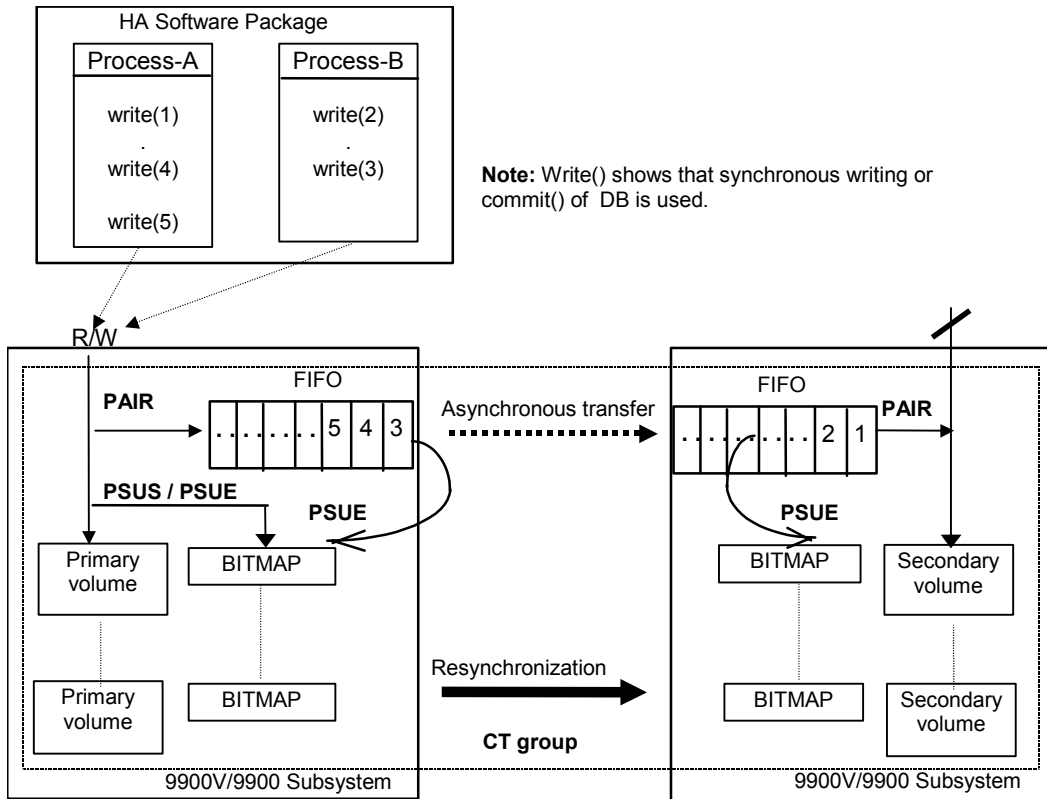

Figure 2.9 Hitachi TrueCopy Asynchronous Consistency Groups
Hitachi TrueCopy Asynchronous provides paired volumes which utilize asynchronous transfer to ensure the sequence of writing data between the primary volume and secondary volume. The sequence of writing data between the primary and secondary volumes is guaranteed within each consistency (CT) group (see Figure 2.9). A CT group is created by paircreate command as the group that corresponds to the configuration definition file. The maximum number of CT groups is 128 for 9900V (CTGID0 to CTGID127), 64 for 9900 (CTGID0-CTGID63), and 16 for 7700E, and the volumes in a group must all be contained within the same subsystem. Hitachi TrueCopy Asynchronous pair command will be terminated with EX_ENOCTG when the maximum number of CT groups is exceeded.